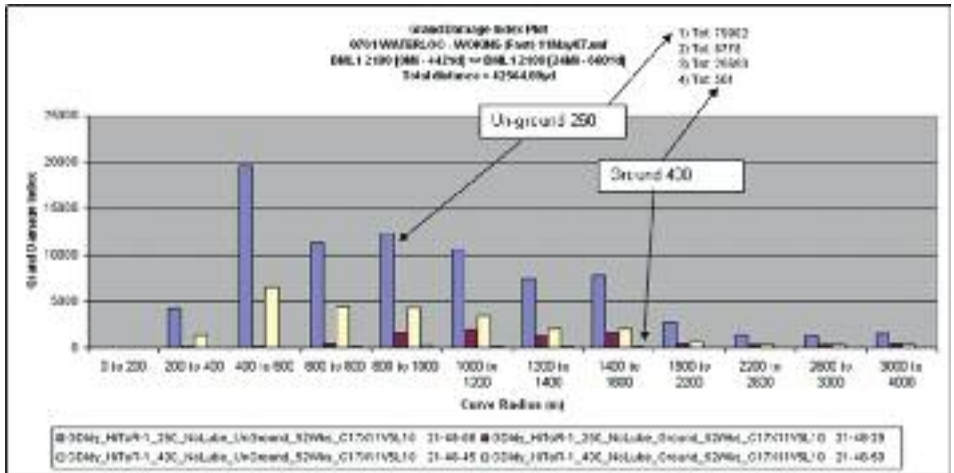

Figure 11: A route comparison of 260/MHH steels with ground/un-ground rails.
Figure 11 depicts the aggregate damage over the entire route analyzed for both the ground and un-ground cases using both 260 and MHH (400) rail. The plots contain relative numbers which indicate the overall damage in each range of curvature, including transitions. The numbers in the upper left corner are the totals of the GDI for the 4 cases and indicate that un-ground 260 grade steel is the worst case while ground MHH has almost no RCF at all.
Figure 11 demonstrates the significant reduction in RCF provided by anti-RCF rail grinding. Likewise, the use of MHH (400) steel causes a significant reduction even when un-ground. A similar analysis of Wear (GWI) would show that MHH greatly reduces gauge face wear as well. But the best combination is that of ground MHH which has only 1.0% of the base case RCF and has essentially eliminated RCF as a problem on this particular route. Generally speaking, the use of MHH and grinding is synergistic in that the performance improvement of MHH and grinding when used together exceeds the individual performance improvement of MHH summed with the individual performance improvement of grinding. This has obvious implications for route strategies.